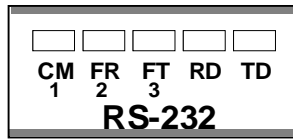

Figure 13 - RS-232 Port LED indicators
- During this time, one or all of the RS-232 numbered LEDs (see Figure 13) will light. If one LED lights, it denotes the port to which the subsequent display applies. If all numbered LEDs light, it denotes that the normal 3-port display mode is active.